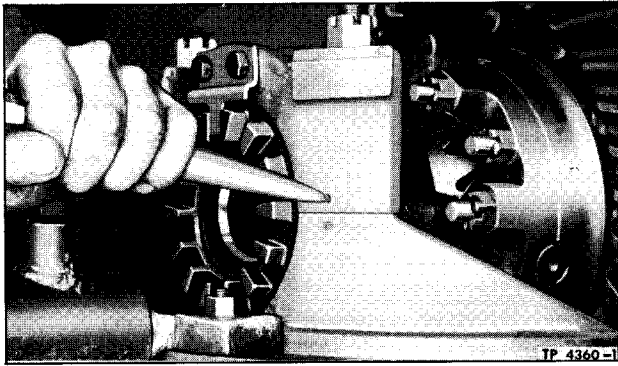

Figure 6—Bearing Cap Alignment Marks
1. Remove lock wire from adjusting ring lock retaining bolts (7), then remove locks (6).
2. Remove lock wire and nuts from differential side bearing cap studs. Make certain that bearing caps (45) and carrier are marked (fig. 6) before removal; then remove side bearing caps (45). Remove side bearing adjusting rings (8). Lift differential assembly with cups (44) from carrier.